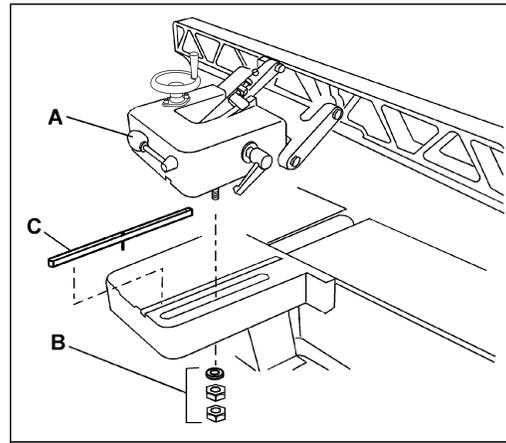

Figure 46
1. Release the fence locking handle (A, Figure 46) and remove the two hex nuts and washer (B, Figure 46) holding the fence to
2. Remove the key (C, Figure 46) from the fence support. If necessary, use a flat head screwdriver to pry up one end of the key.
3. Replace the fence assembly at the desired angle across the cutterhead. See Figure 47. Secure the fence to the slide bracket with the hex nuts and washer (B, Figure 46), then tighten the fence locking handle (A, Figure 46).
NOTE: When placing the fence assembly back into normal position, be sure to first install the key (C, Figure 46) into its slot.